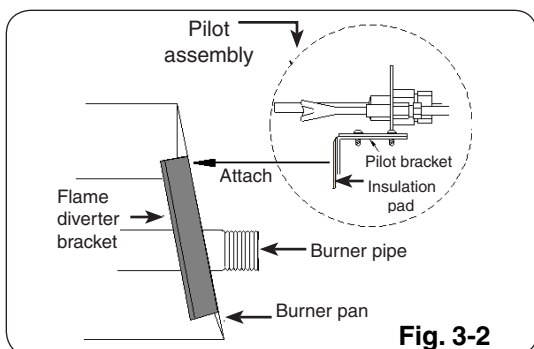

Fig. 3-2
- Place flame diverter bracket over the side edge of the burner pan where the Peterson safety control system pilot bracket will be attached. Bracket should be placed approximately 1 1/4" from the back of burner pan (Fig. 3-2, 3-3, & 3-4).